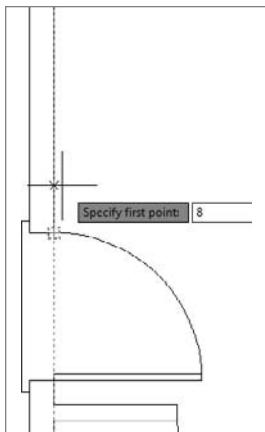

FIGURE 5.42 Setting the location for the first counter line
6. Move the cursor upward; then enter **8 ↴ (204 ↴)** to start the counter line 8" (204 mm) from the corner of the jamb (see Figure 5.42).